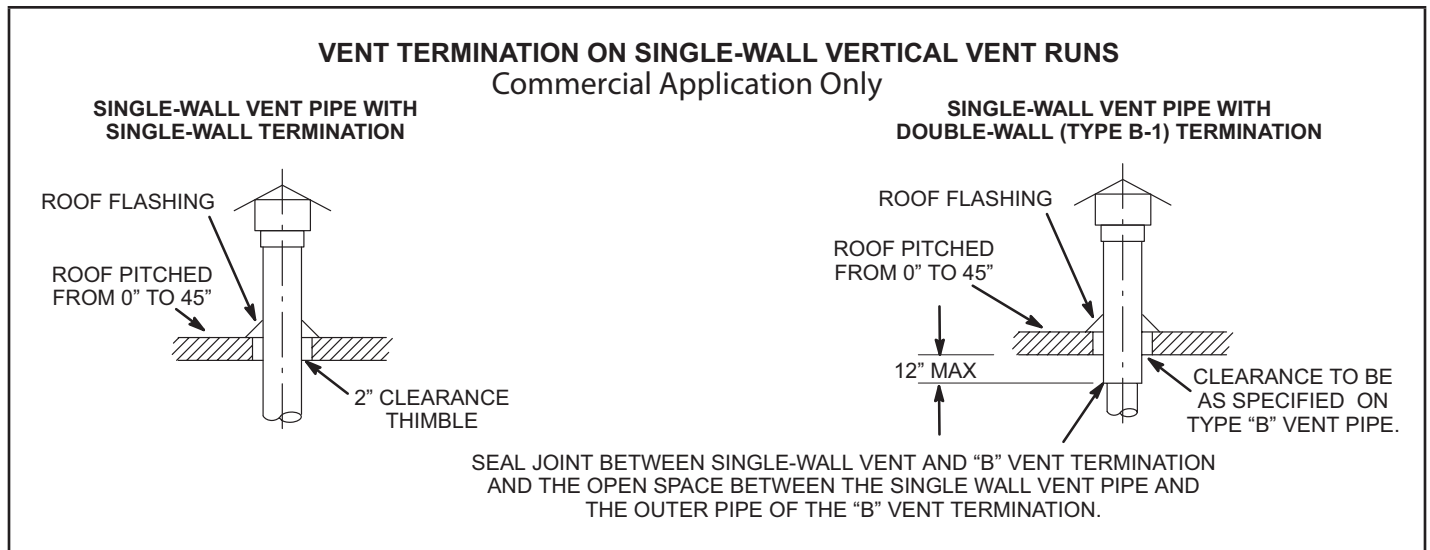

FIGURE 3
- 1 - These unit heaters are to be used with NFPA- or ANSI-approved chimneys or U.L.-listed type B-1 gas vents, or listed chimney lining systems for gas venting where applicable, as well as the modifications and limitations listed in figure 3. Seal single-wall vent material according to **General Recommendations and Requirements** section.